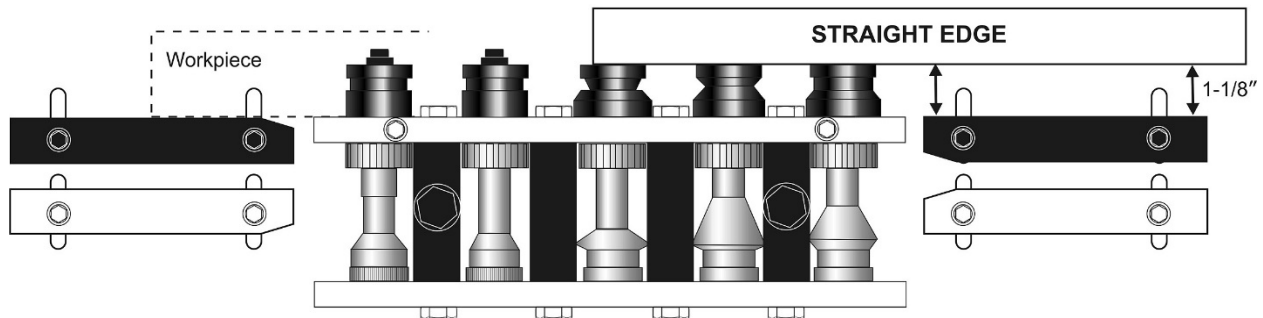

Figure 7-3: Double Seam setup (optional roll set)
See Figure 7-3.
6. Lay straight edge against outside surface of rolls, and position entry fence at 1-1/8" clearance from straight edge, as shown in Figure 7-3. Tighten down both screws on entry fence.